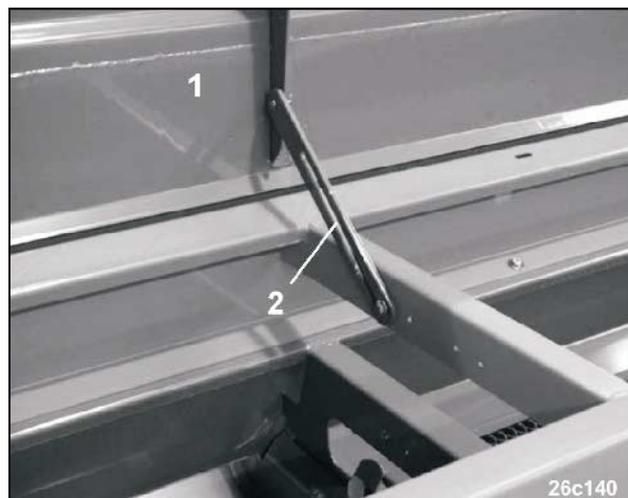

Fig. 145
- Open the fertiliser hopper lid (Fig. 145/1) and lock in opened position (see Fig. 145).
- For shutting the lid briefly release the locking device (Fig. 145/2) and carefully shut the lid.